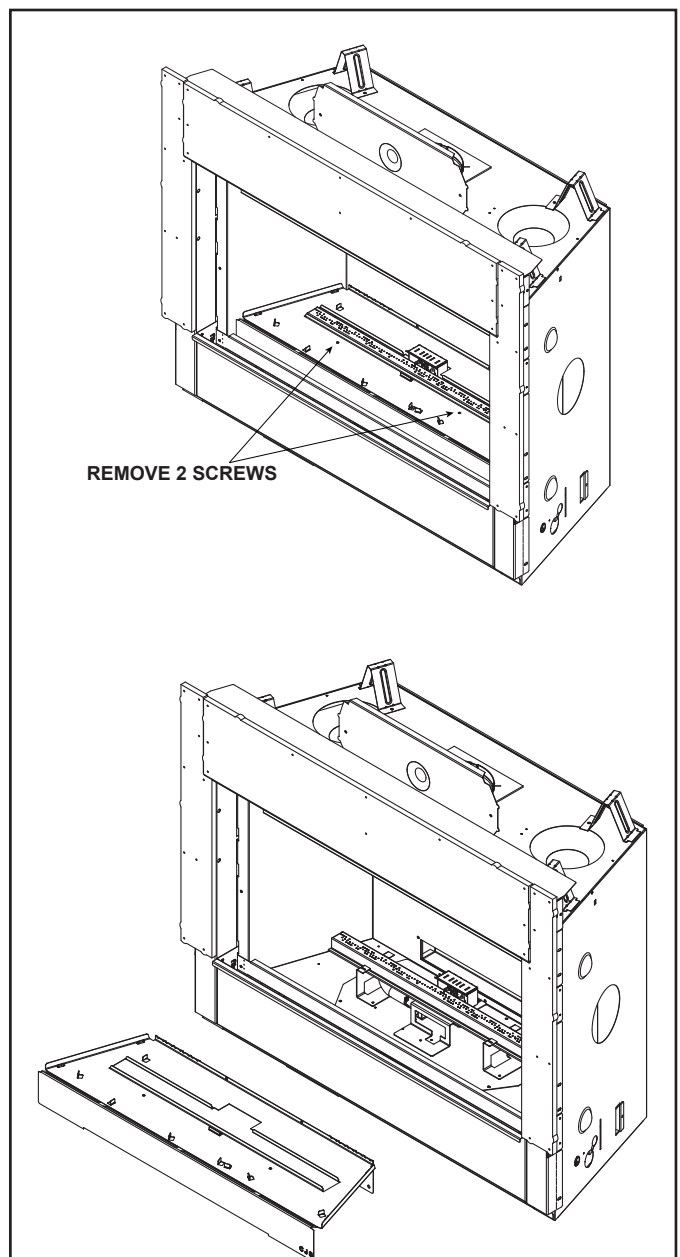

Figure 9.1 Basepan Removal - JADE42IN-B Shown
1. Locate and remove the two screws that secure the basepan to the appliance. See Figure 9.1. Remove basepan. Retain screws.